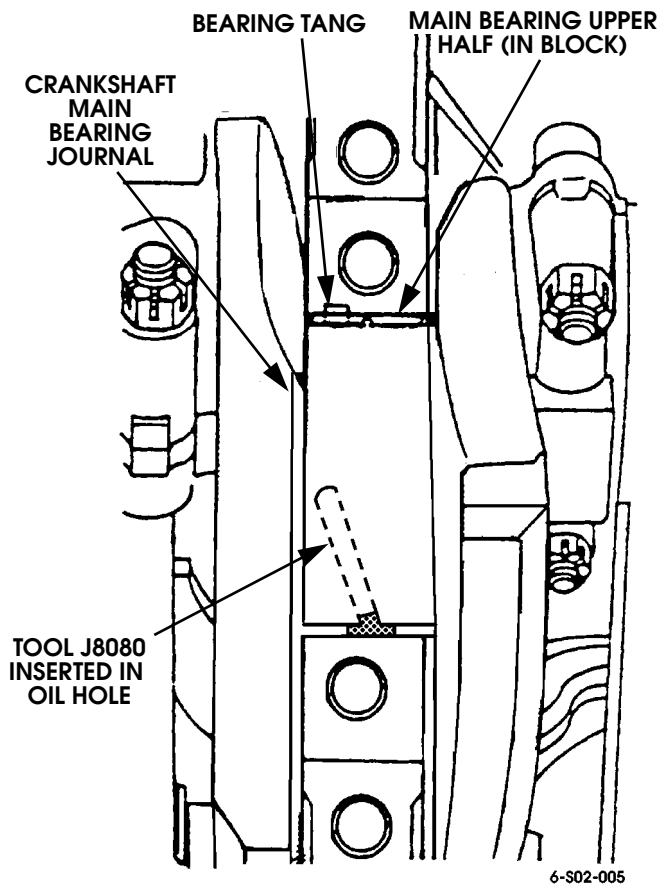

Figure 2-57: Removing/Installing Main Bearing Upper Half with Cotter Pin or Equivalent
- c. Insert tool J8080 into oil hole in crankshaft bearing journal. Position "T"-end of tool against bearing upper half. Rotate crankshaft counterclockwise until tool pushes upper half of main bearing out of bearing saddle in block (Figure 2-57).
- e. Start plain end of new upper bearing half into place by hand. Then push bearing into position with tool J8080. Be sure bearing tang is seated in notch in bearing saddle of block (Figure 2-57).